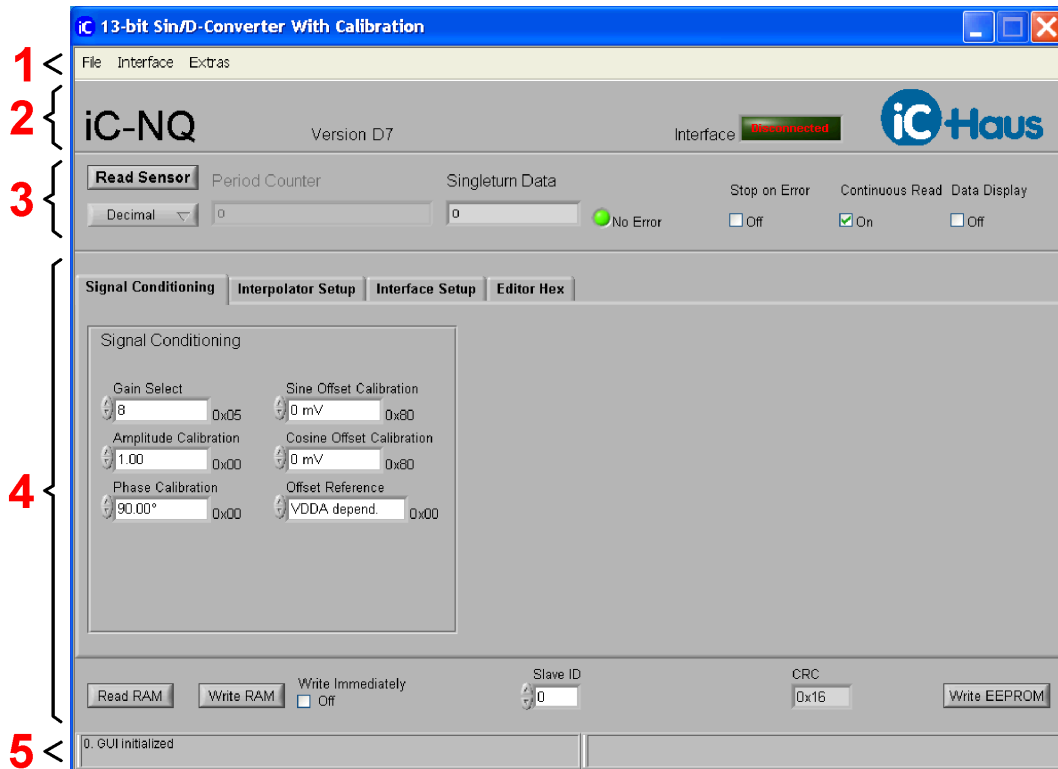

Figure 5: Evaluation software start-up window iC-NQ
3. After installation the executable NQ(C)1SO_gui_xx.exe will be available in the selected working directory. Figures 5 and 6 show a screenshot of the evaluation software.